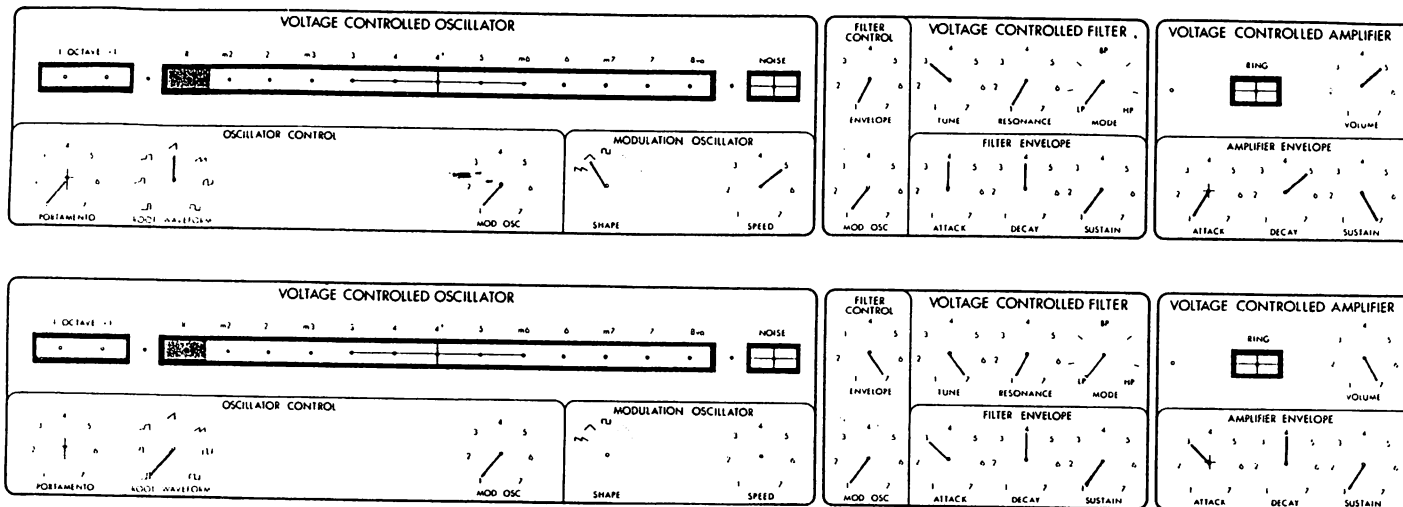

Fig. 6
C. Pulse Width Modulation — Pulse width modulation creates a chorus effect — the sound of a number of instruments playing together. This is accomplished electronically by using the FILTER ENVELOPE to control the width of a pulse produced by the VOLTAGE CONTROLLED OSCILLATOR. This results in the phase of the oscillator signal changing in time much like the phase variations of a chorus of instruments. Set up the SynKey according to figure 6.